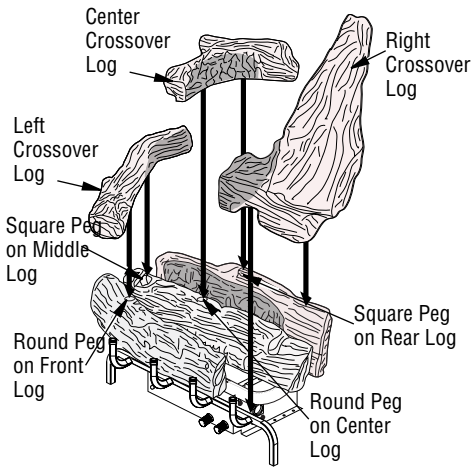

Figure 20 - Installing Left, Center and Right Crossover Logs
4. Place left crossover log as shown in **Figure 20, Page 17**. Match square peg on top of center log with square hole on bottom of left crossover log. Match pin on top of front log with round hole on bottom of left crossover log.
5. Place center crossover log as shown in **Figure 20, Page 17**. Match square peg on top of rear log with square hole on bottom of center crossover log. Match pin on top of center log with round hole on bottom of center crossover log.
6. Place left front crossover log as shown in **Figure 20, Page 17**. Log should rest on the grate and fit into recess area on the center log.